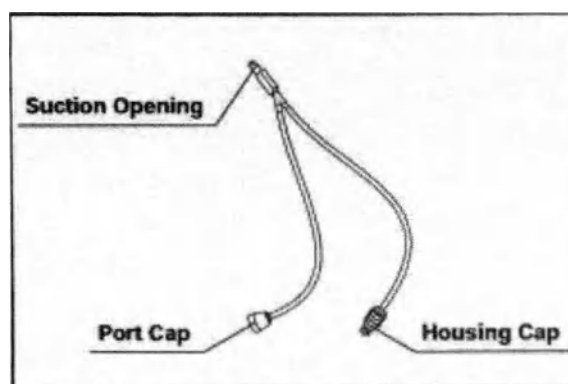

Fig7.2
2. Suction cleaning adapters are used to flush, clean, disinfect and disinfect the liquid through the injection channel and suction channel, and remove the liquid from channels(Fig 7.2)
Confirm that the adapter is free from cracks, scratches, flaws, debris and/or other damage. (See Fig 7.2)